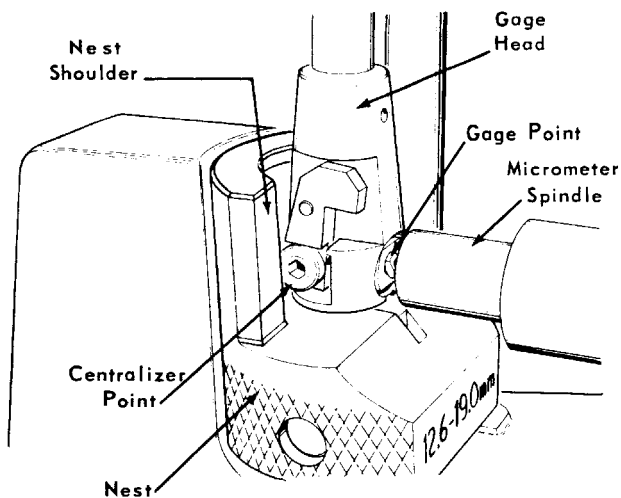

FIGURE 10
8. **CAREFULLY** place the Gage in the Nest so the Keyway in the Gage Head engages the Key in the Nest (see Figure 9). Be sure the Gage Point is toward the Micrometer Spindle (see Figure 10).